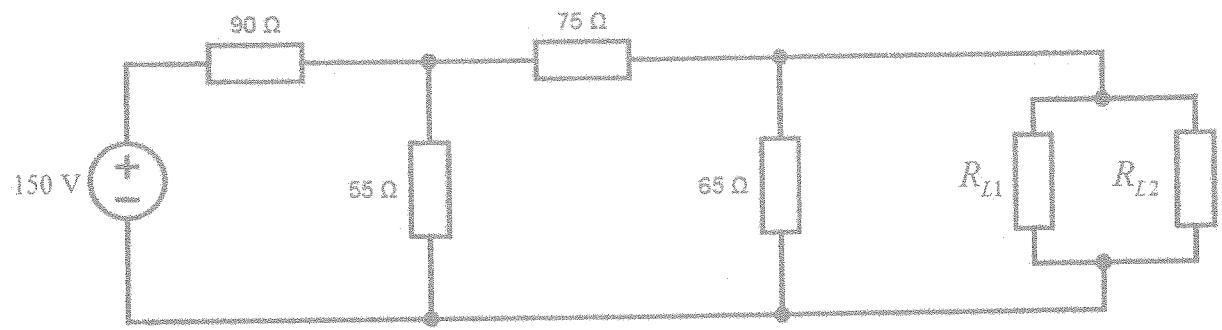

Figure Q1.1
- ii) Consider the circuit illustrated in Figure Q1.1. Assume that the ratio of resistance between the two loads are $R_{L1} : R_{L2} = 1:2$. Calculate the resistance of the loads and the power dissipated at each load, if the voltage source transfers the maximum amount of energy to the circuit.